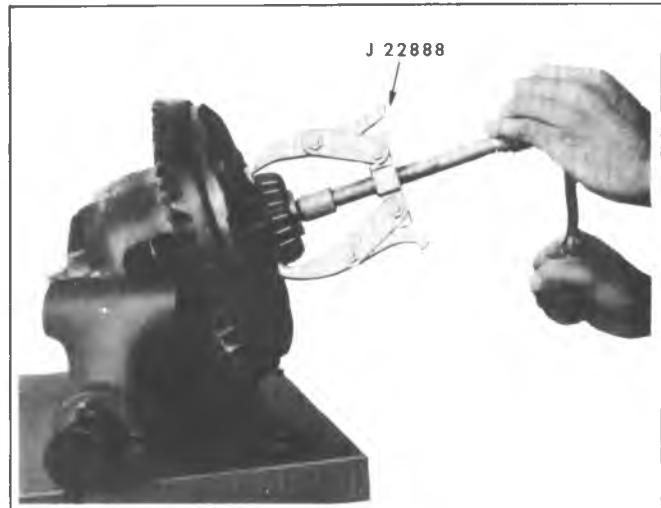

Fig. 16F-Removing Differential Side Bearings
3. Remove differential bearing cone and roller using Puller J-22888, with Plug J-8107-3, as in figure 16F. Tag cone and rollers for assembly.